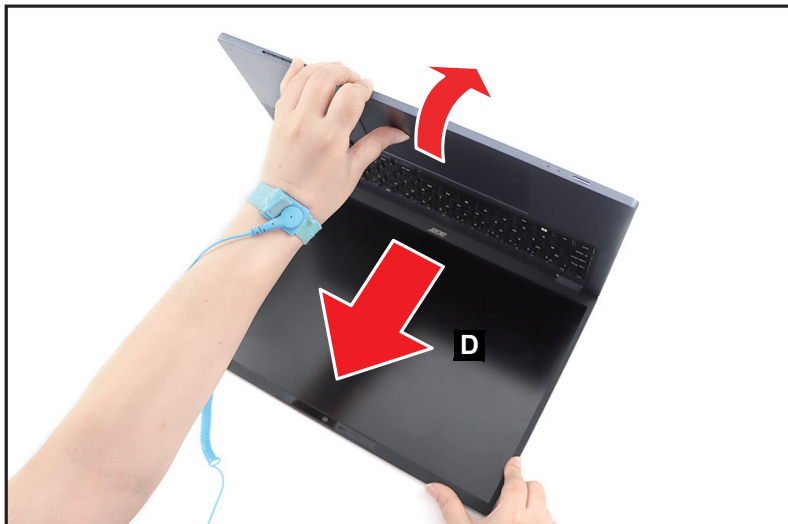

Figure 1-18. LCD Module Removal
6. Open the top assembly again. Then remove the LCD module (D) away from the top assembly (Figure 1-18).